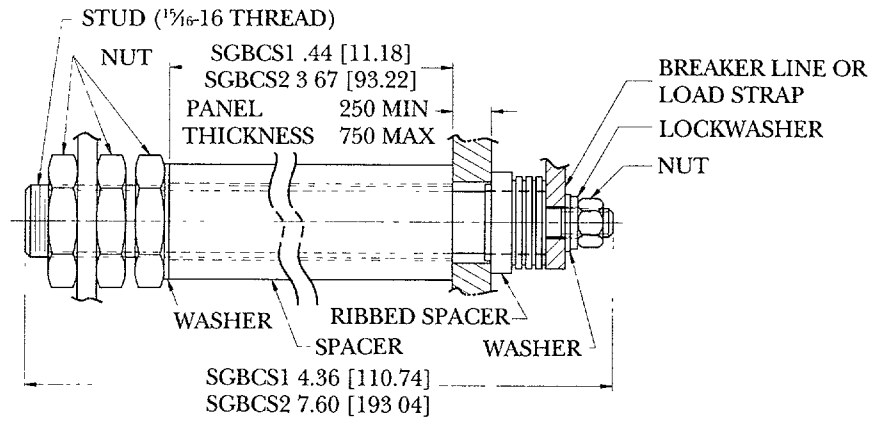

Figure 2 Assembled back-connected stud
2. Assemble the studs to the mounting panel and the breaker to the studs, as illustrated in Figure 2.